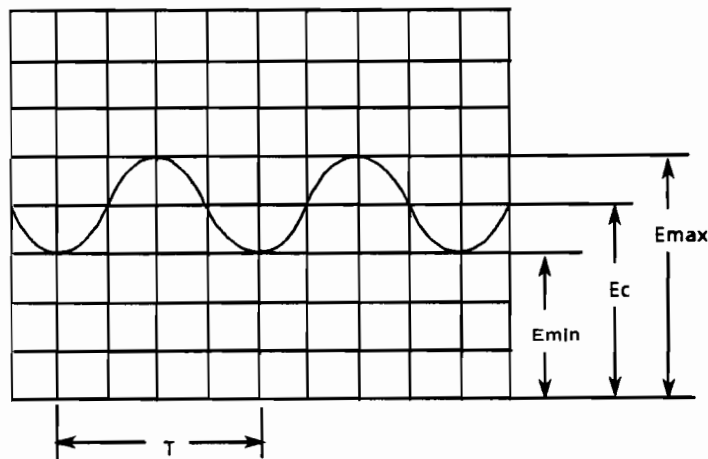

Fig. 6-7 Time Domain Display of AM Wave
(3) Measurement of AM modulation factor m at low modulation frequency
When the modulation frequency in AM modulation factor measurement described in paragraphs 6.5.2 (1) and (2) is so low that the modulation frequency resolution is impossible, set SPAN to zero and operate the MS2601A/J as a fixed-frequency receiver to display the demodulated waveform shown in Fig. 6-7. The modulation factor m can be obtained from E_{max} , E_{min} and E_c as shown in Fig. 6-7.
5	Select VIDEO at the TRIG menu to obtain a stationary image (Fig. 6-7).